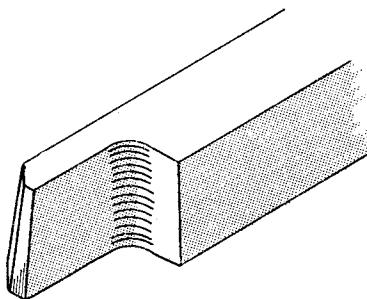

Fig. 6. Tool for machining spigot on mandrel
*Operation 2.* The 1-in. dia. B.S.F. thread has now to be machined, but first the 1½ in.  $\times$  ½ in. dia. portion of the mandrel must be rough machined to allow the screw-cutting tool to clear when it has passed over the threaded portion of the work. The rough turning operation and the subsequent final turning of the ½ in. dia. portion to size may be carried out with an angular parting tool mounted in the back toolpost. This tool should have a slight facet at the top, as shown in Fig. 6, in order to impart a good finish to the work. When the rough turning has been completed, an external threading tool is mounted in the top-slide toolpost, which is set over to  $27\frac{1}{2}$  deg., that is, one-half of the included angle of a Whitworth Standard V-thread. The necessary change wheels to cut 1-in. B.S.F. or 10 threads-per-inch, are then set up, and the lathe is turned by hand to